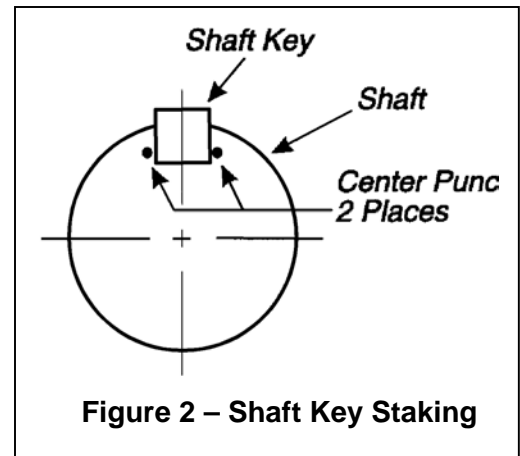

Figure 2 – Shaft Key Staking
3. After inner extension (G1) is mounted, and shaft key (G8) is assembled in keyseat, secure shaft key by staking with a centerpunch on the end of the shaft. Stake on both sides of the shaft as shown in Figure 2.